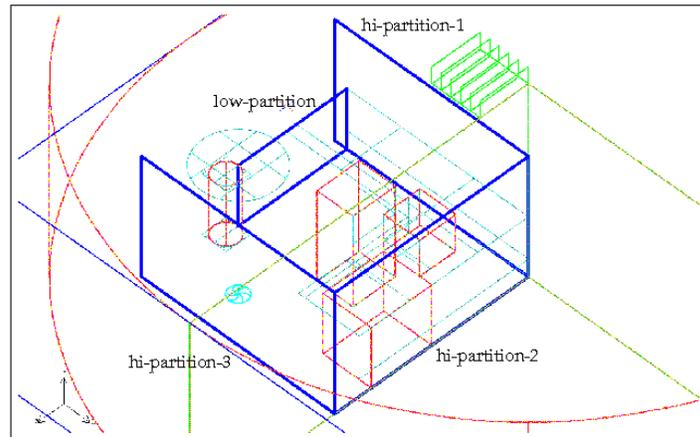

Figure 4.11: Close-Up View of the Partition Objects
- (a) Use the right mouse button to zoom into the CAD geometry representing the partitions and the middle button to translate the view, as shown in Figure 4.11.
- ii. Using the left mouse button, click on the rectangle that comprises the low partition in the graphics window, identified as **low-partition** in Figure 4.11.